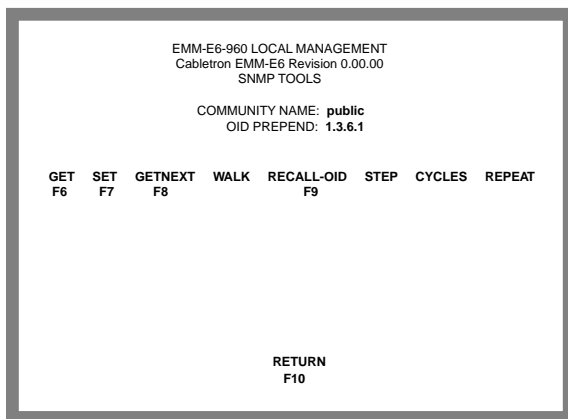

Figure 9-1. SNMP Tools Screen
2. Press the **Return** key. The SNMP Tools Screen, Figure 9-1, appears.